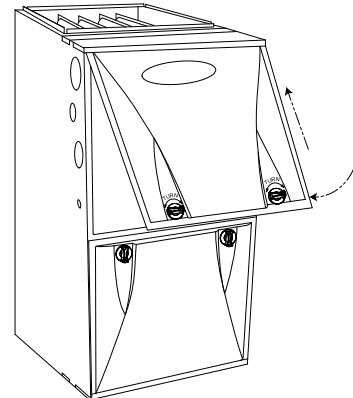

Fig. 13 – Furnace Door Replaced (Upflow Configuration)
7. Replace main furnace door (see Fig. 13).
- Replace main furnace door (see Fig. 13).